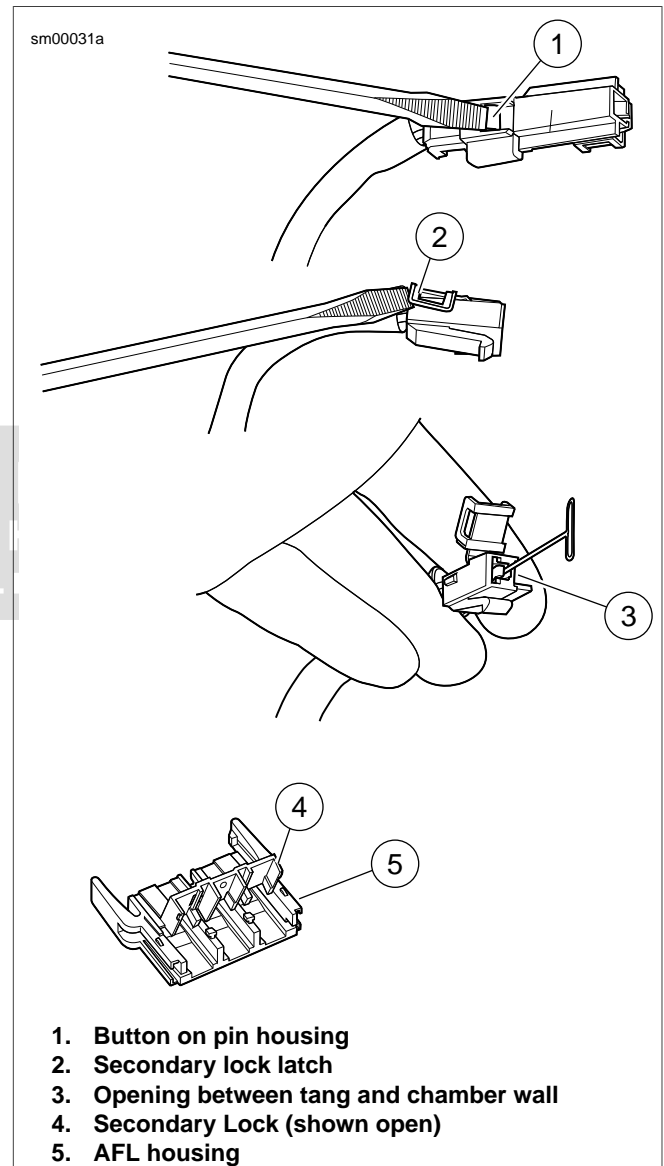

Figure A-38. 480 Metri-Pack Connector: Remove Socket Terminal
See Figure A-38. An AFL housing (5) is used on many ignition/light switches. The secondary lock (4) must be opened before removing the terminal from the housing.
See Figure A-38. Using small flat blade screwdriver, press button (1) on pin housing (red wire) side of the connector and pull apart the pin and socket housings.
1. See Figure A-38. Bend back the latch (2) slightly and free one side of secondary lock, then repeat to release the opposite side. Rotate the secondary lock outward on hinge to access terminal in chamber of connector housing.
2. On the mating end of the connector, note the tang in the square shaped opening centered next to the terminal. Gently insert the point of a stick pin or large safety pin into the opening (3) between the tang and the chamber wall until it stops.